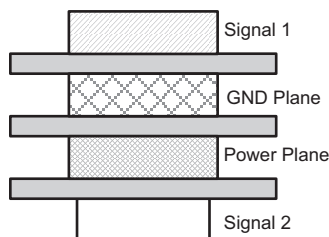

Figure 13. Four-Layer Board Stackup
- Due to high-frequency signals, a printed-circuit board with at least four layers is recommended; two signal layers separated by a ground and power layer as shown in Figure 13.